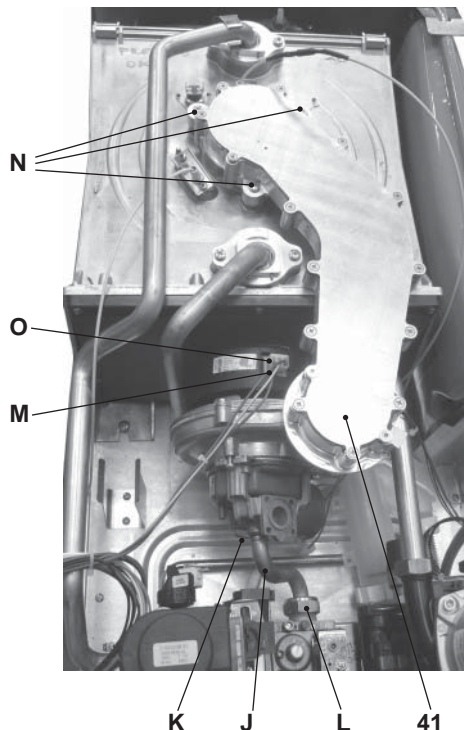

Fig. 9.7
Removing the fan burner unit 41 in Fig. 9.7.
- Insert a flat screwdriver in the connector recess M and lever towards the bottom, disconnect the connector at the same time O by pulling towards the front O (Fig. 9.7).
- Unscrew screws N and remove the fan burner unit 41 (Fig. 9.7)